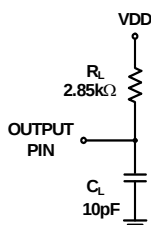

FIGURE 4. EQUIVALENT LOAD CIRCUIT
- During characterization,  $t_{DISABLE}$  is measured from the release point with a 10pF load (see Figure 4) and the equivalent timing using the AD7452 loading (25pF) is calculated.